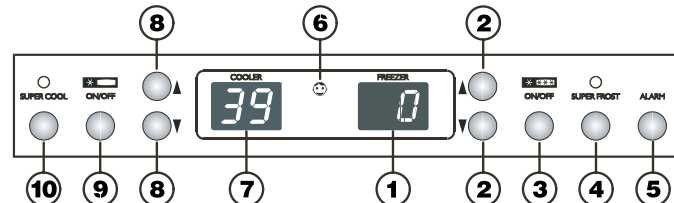

Figure 3
Childproof Lock - Figure 3
Temperature Display - Figure 3
Audible alarm signal - Figure 3
Power Failure/Frost-Control Display - Figure 3
Supercooling - Figure 3
- Press the buttons "Alarm" (5) and "Temperature up" (8) simultaneously for 3 seconds. The display then shows "On". (Fig. 3)
- Press the buttons "Alarm" (5) and "Temperature up" (8) simultaneously for 3 seconds. (Fig. 3) The display then shows the actual temperature of the refrigerator and of the freezer compartment.